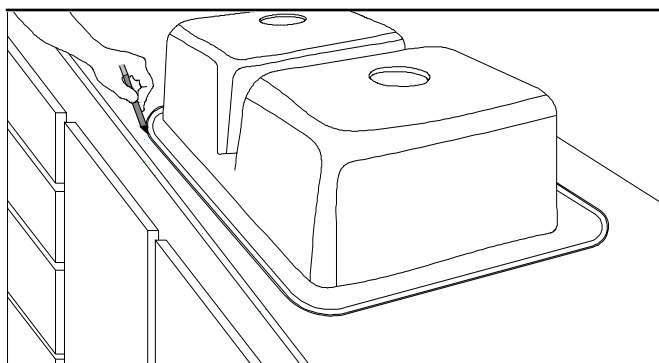

Figure 30B
- Position sink upside down on countertop in desired position. Holding the sink in place, trace completely around outside of sink rim. (FIG. 30B)